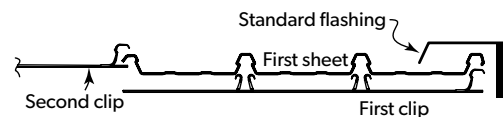

Figure 2
- 2 Position the first clips on each support by placing onto the support nearest the roof edge. (Figure 2)